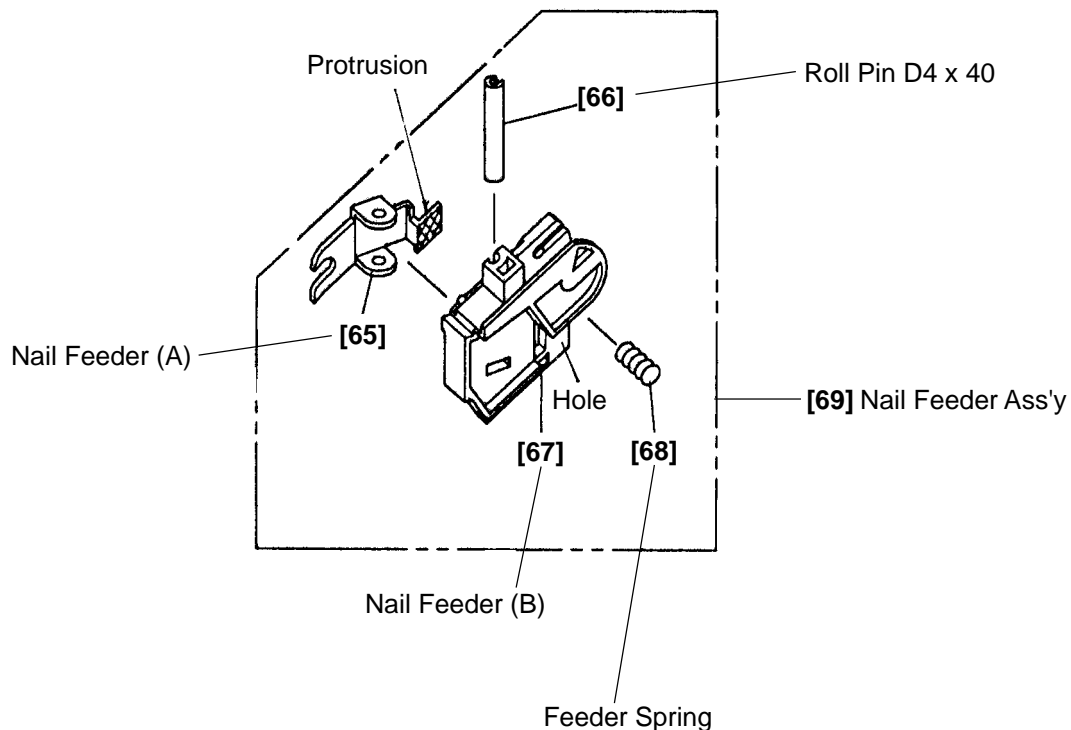

Fig. 20
(3) Nail Feeders (A) [65], (B) [67] and the related parts (See Fig. 20.)